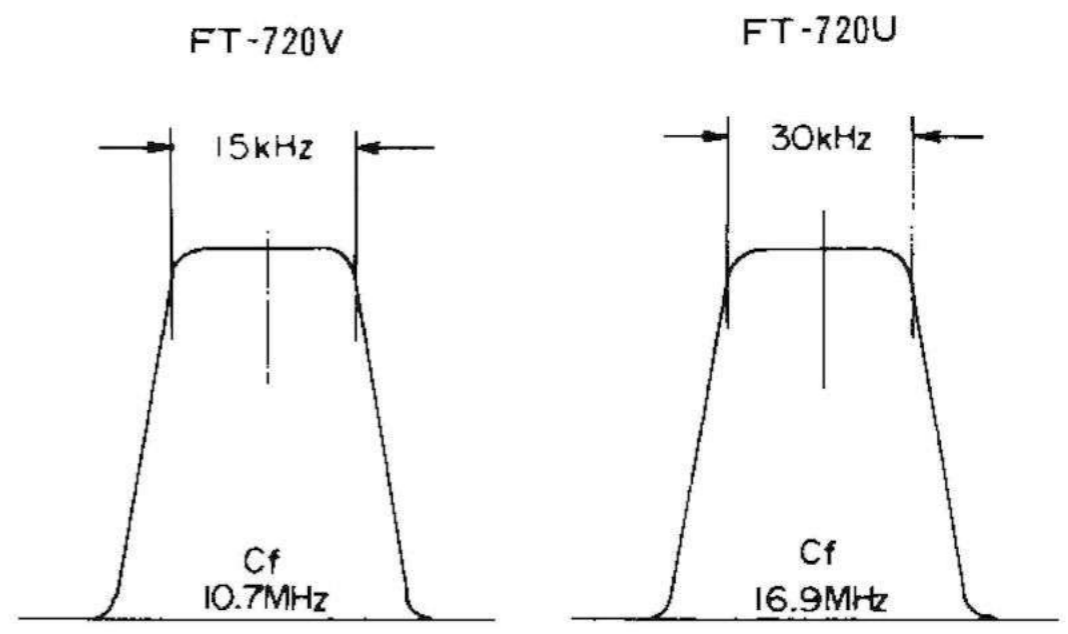

Figure 1
c) Adjust the core of T_{1003} for maximum deflection on the scope, then adjust T_{1001} and T_{1002} so that the display shown in Figure 1 is obtained. Remove the clip lead connected to the base of Q_{1005} .
(3) First Local Helical Resonator Adjustment (FT-720RU)